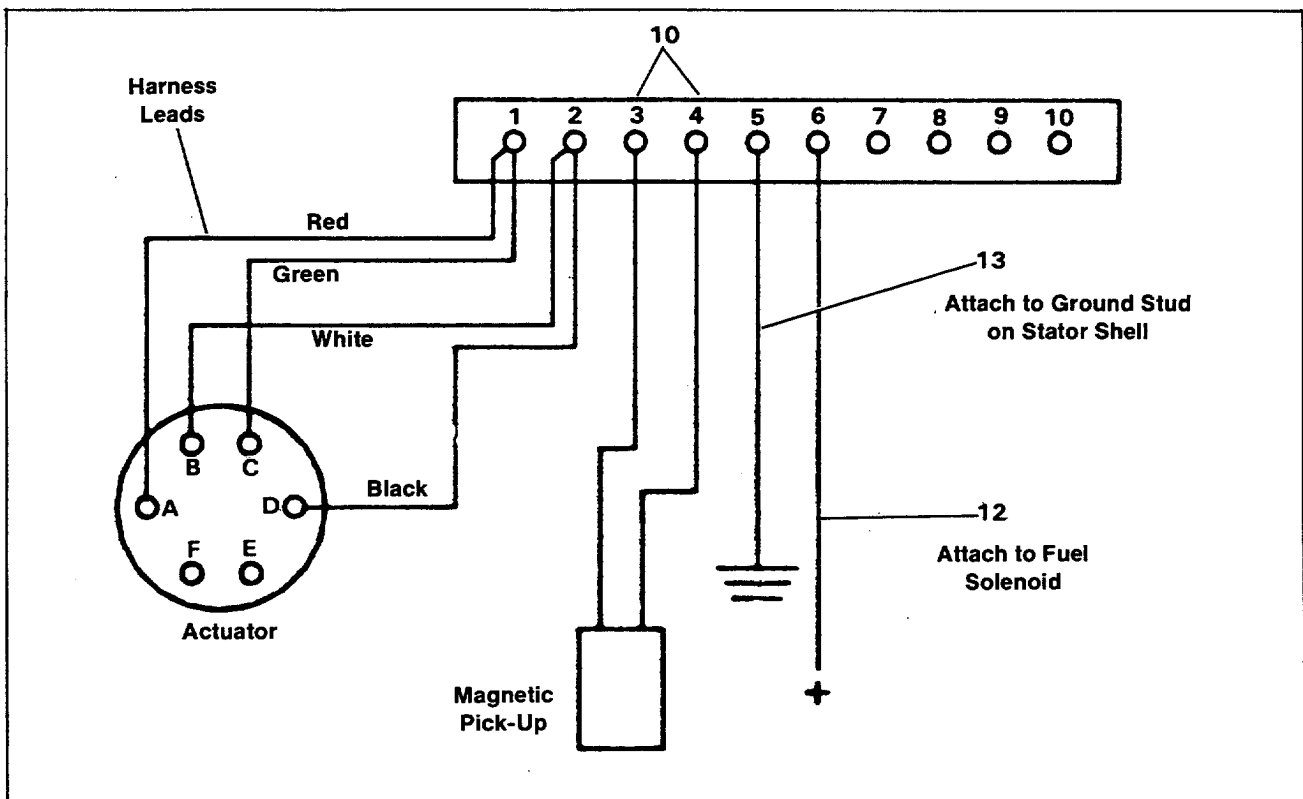

Figure 3. Wiring Diagram
16. Connect isochronous governor according to wiring diagram, see Figure 3. On Dec-II controller models, the leads are run through the hole in rear panel of controller box. On relay controller models, the leads are run through the grommet in rear of junction box.